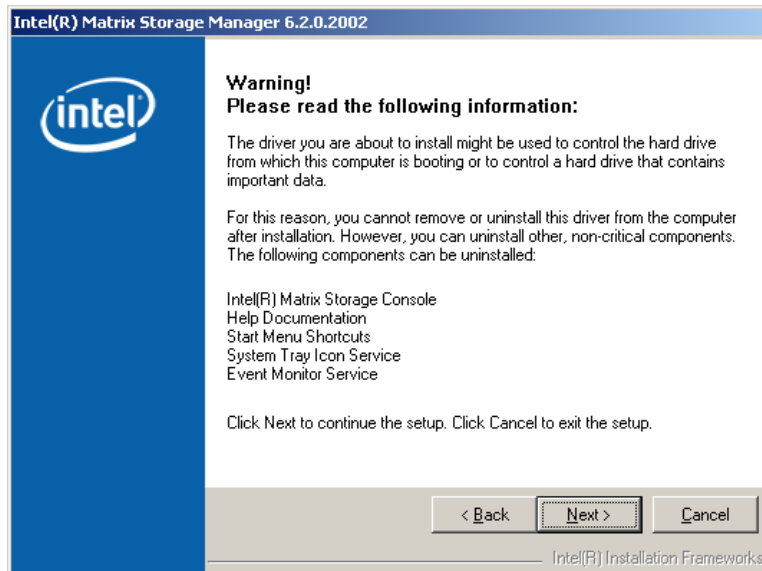

Figure 7-41: Matrix Storage Manager Warning Screen
Step 8: Click **NEXT** and a warning appears (**Figure 7-41**). Read the warning carefully